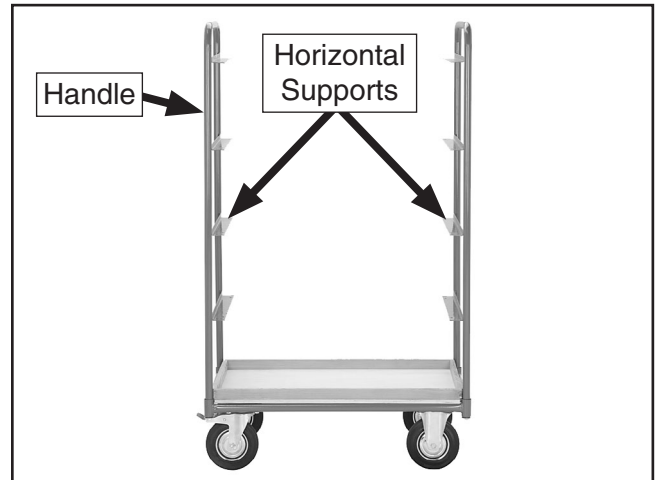

Figure 5. Handles correctly positioned.
5. Place the handles into the sockets at both ends of the bottom shelf. Make sure the horizontal supports face inward, as shown in **Figure 5**.